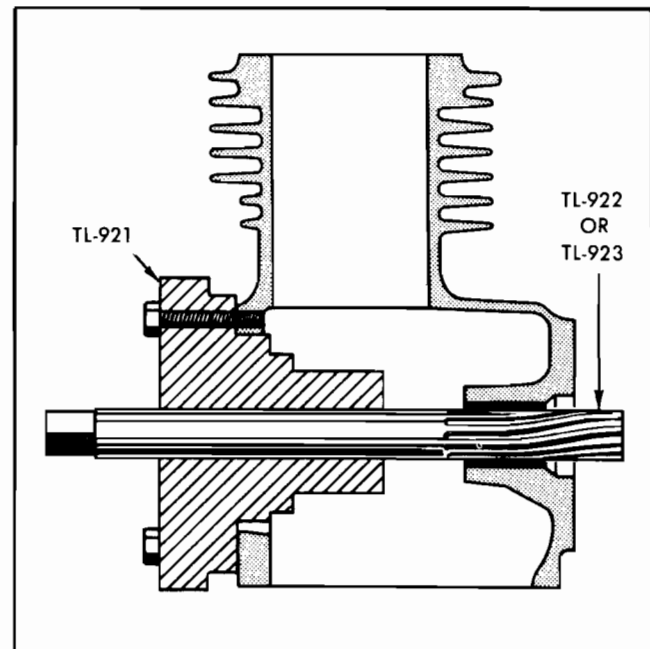

Figure No. 53—Reaming Main Bearings
6. Insert the main bearing reamer, TL-912, in the bearing bore and slide the alignment sleeve on the end of the reamer shaft in the opposite bearing from the one being reamed. (See Figure No. 53.)